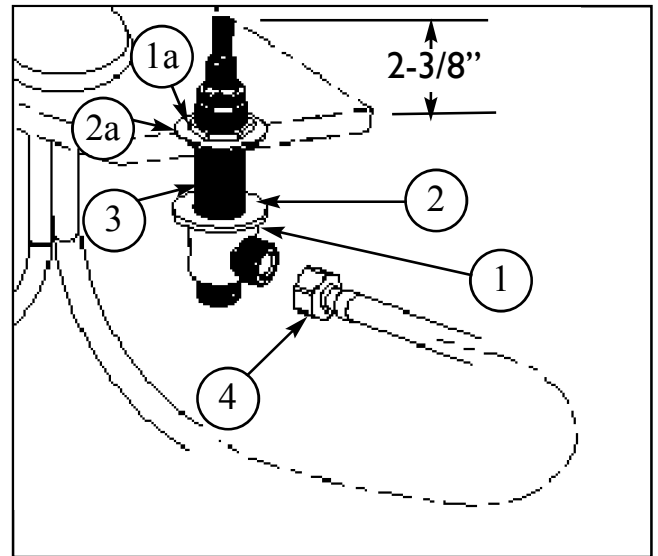

Figure 2
2. Place plastic flange NUT (1) and fiber WASHER (2) onto valve BODY (3). Insert valve BODY (3) through deck hole from underside of sink. Valve BODY (3) should extend: 2-3/8" above mounting surface. If necessary adjust lower flange NUT (1). Place fiber WASHER (2a) and flange NUT (1a) onto upper position of valve BODY (3). Set hot and cold valve BODIES (3) so that their outlets are facing towards the center of the sink and tighten upper flange NUT (1a) by applying 20 ft.lbs. torque. See Figure 2.
3. Connect HOSE (4) to outlet of each valve BODY (3). Hand tighten and secure each HOSE (4) with a wrench 1/4 turn. See Figure 2.